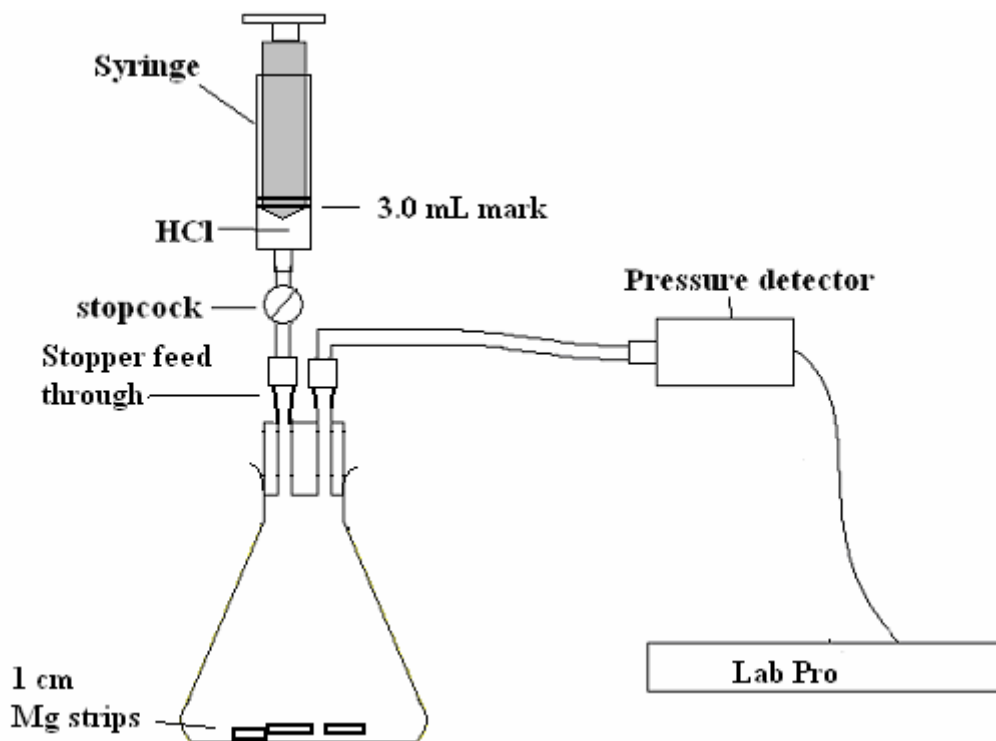

Figure 1. Apparatus for reacting Mg and HCl to form H2(g).
- Using a clean 125 mL Erlenmeyer flask, set up the apparatus as shown in Figure 1 below with the first sample of Mg in the flask, but do not add HCl into the syringe at this point. Ensure that all connections are tightly secured, but **do not over tighten screw on connectors**. The connection from the stopcock to the stopper feed through
7. Unscrew the syringe and draw up 3.0 mL of HCl solution from the beaker into the 20 mL syringe. Note: It is good practice to add more than 3 mL initially. If there are significant air bubbles in the syringe, point the syringe upwards to get the air at the tip of the syringe and carefully discharge a small amount of the air and acid into a paper towel. Then point the syringe downward and depress the plunger, releasing excess HCl back into its beaker, until the volume in the syringe is 3.0 mL. Read the volume at the front edge of the inside black ring on the piston of the syringe as shown in Figure 1. Connect the syringe onto the two-way valve on the white stopper with a twisting motion to tighten it in place.